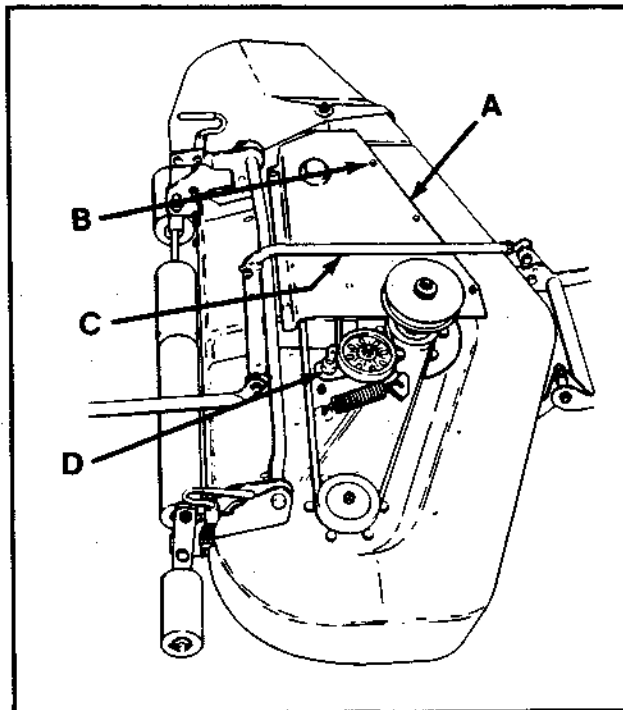

FIGURE 12 - Idler Pulley Pivot
3. Remove the tap screws to remove the right hand cover (both covers can be removed to check/clean inside of mower deck). See Figure 12.